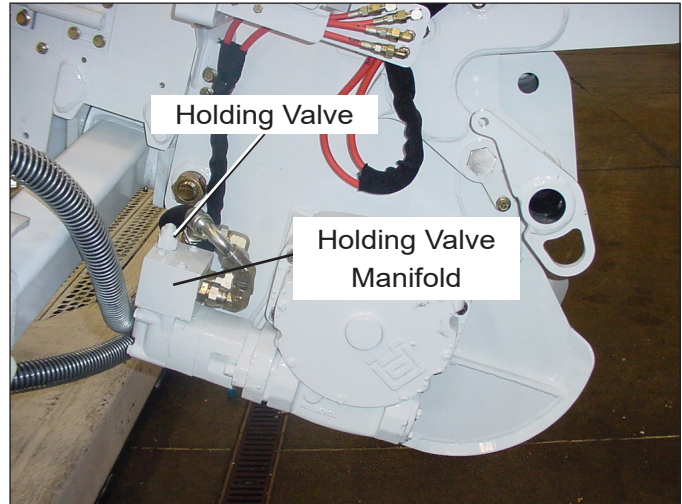

Figure 1 — Winch Holding Valve
4. Inspect the back side of the winch holding valve, the side of the valve that faces the flare weldment (refer to Figure 1).